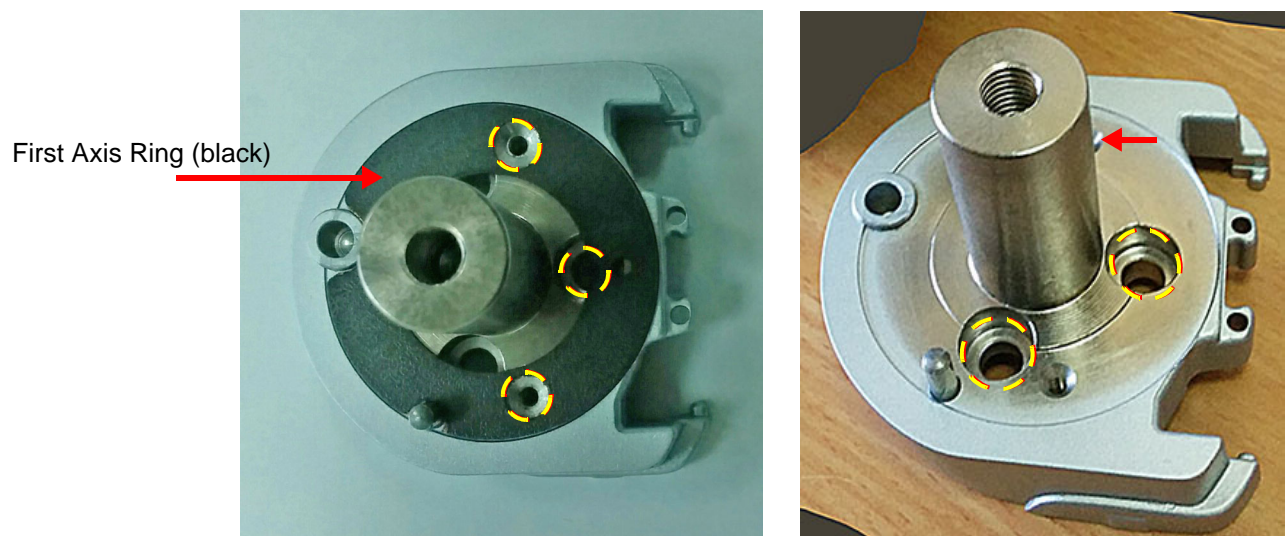

Figure 8-266 First Axis Ring and Securing Screws
- 2) Remove the First Axis Ring (see also Figure 8-264, above) by releasing the three securing screws (the picture on the left shows the First Axis Ring with the screws already removed - Figure 8-266).
- 3.) To remove the First Axis Pin, unscrew the three securing screws (refer to Figure 8-266). See also Figure 8-264 on page 8-212.